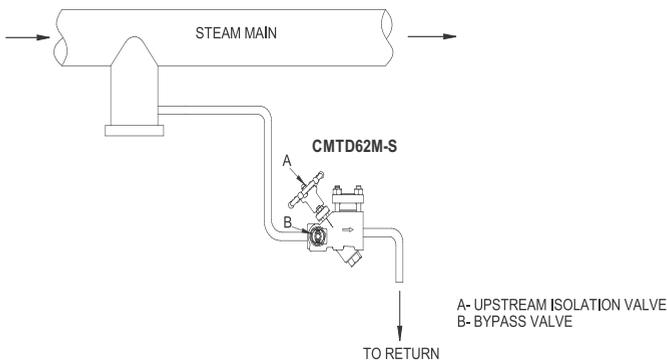

Figure 4: Typical installation of Compact Module - Thermodynamic Trap [CMTD62M-S]
3. The preferred installation is in a horizontal pipe with the top cover uppermost as shown in figure 4. The steam trap will operate in any position, but the service life may be affected.
6.1. Flushing of lines: [Refer figure 4]
6.2. Commissioning: [Refer figure 4]
6.3. Commissioning with particular reference to vent air: [Refer Figure 4]